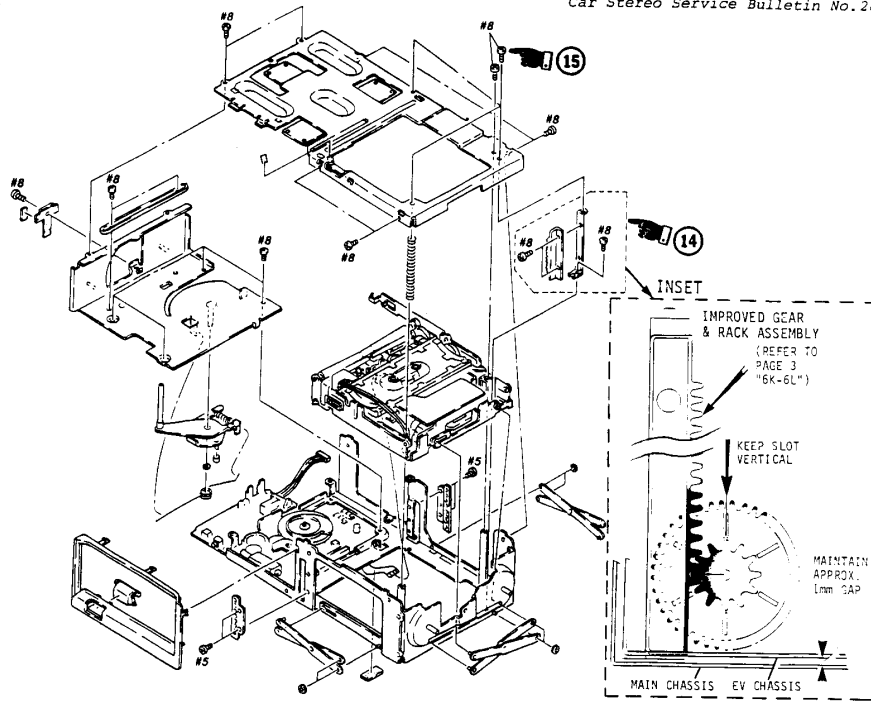

FIG.5
- 6K- Rotate the elevator motor shaft until any slot on the EV gear is facing straight up (see inset, figure 5).
- 6L- Install the improved rack assembly (figure 5, item 14; bag "A"). There should be approximately 1mm of space between the bottom of the EV chassis and the main chassis. After tightening the screw which secures the rack assembly, verify that the slot on the EV gear is still facing straight up (see inset, figure 5).
8A- Install the chassis top cover. Use an improved screw (figure 5, item 15; bag "A") to secure the top cover to the improved rack assembly. Apply locking compound to all of the screws which secure the chassis top cover.